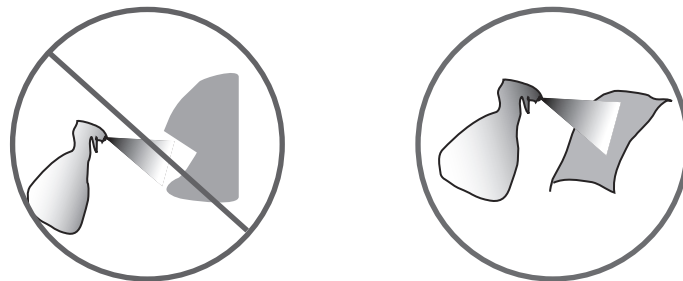

Figure 16-1: HandReader Cleaning
- The labeling of the terminal strips have changed. See Figure 16-1